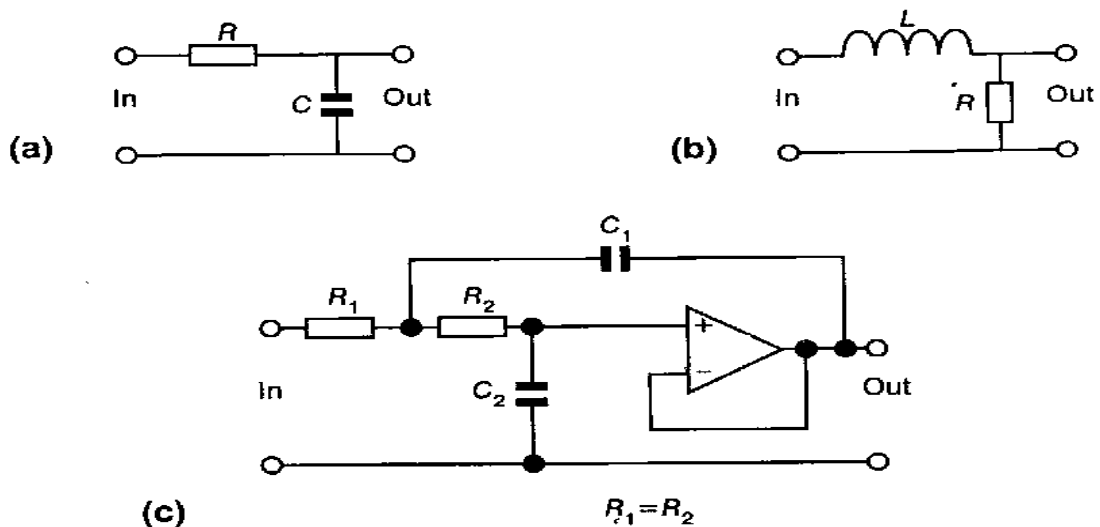

Figure 8.11 Low – pass filter circuits: (a) and (b) are first – order passive alternatives, (c) second – order active
- See Figure 8.11 a, b.
- See Figure 8.11 c.